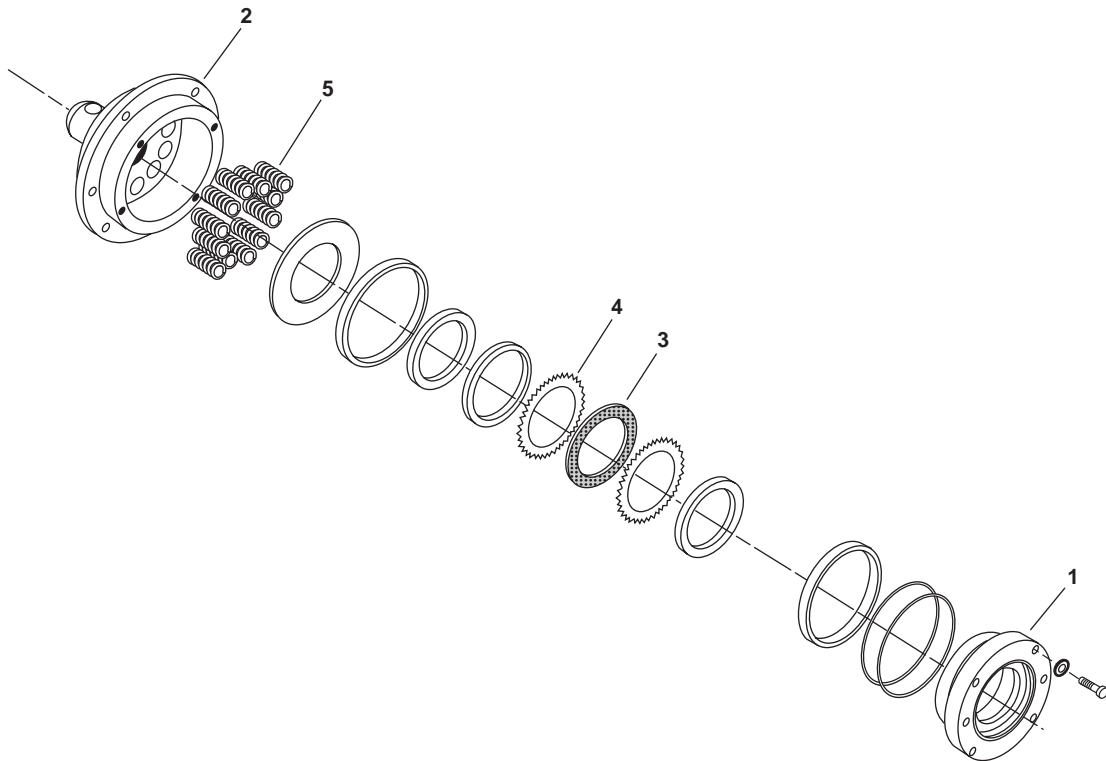

Figure 2. Crane Winch Brake Assembly
3. Inspect the hydraulic motor support plate (figure 2, item 1) to ensure that all sealing surfaces are free from corrosion and pitting. Replace the motor support plate if sealing surfaces will not seal.
4. Inspect the brake cylinder (figure 2, item 2) for corrosion, pitting, and to ensure that the brake release port is free of contamination. Check the oil seal and bearing surfaces for damage or wear. Replace the brake cylinder if pitting does not allow for proper sealing or the oil seal and bearing surfaces are damaged or worn.
5. Inspect the friction brake discs (figure 2, item 3) by laying them on a flat surface and checking for distortion with a straight edge. The friction material should appear even across the entire surface and there should be a groove pattern visible. Replace the friction brake discs if the splines are worn to a point, the discs are distorted, or the friction material is worn unevenly.
6. Inspect the steel brake discs (figure 2, item 4) by laying them on a flat surface and checking for distortion with a straight edge. Check the discs for signs of material transfer or heat/hot spots. Replace the steel brake discs if the splines are worn to a point, the discs are distorted, or if the discs are discolored because of heat transfer.
7. Inspect the springs (figure 2, item 5) for signs of cracking or failure. Measure the spring height. The minimum uncompressed height is 1-3/16 in (30 mm). Replace all springs as a set if any of the springs have these conditions.
1. Connect the pump from a portable hydraulic press to the hydraulic motor support plate (figure 2, item 1) and apply 1,000 PSI (69 bar) to the brake. CLOSE the shutoff valve on the hydraulic hand pump. Let pressure stand for five minutes. If there is no loss of pressure after five minutes, proceed to the next step. If there is a loss of pressure during the five minutes, disassemble the brake. Check the sealing surfaces and the piston seal. Once the loss of pressure has been corrected, proceed to the next step.
4. Release the hydraulic pressure to the hydraulic motor support plate (figure 2, item 1).